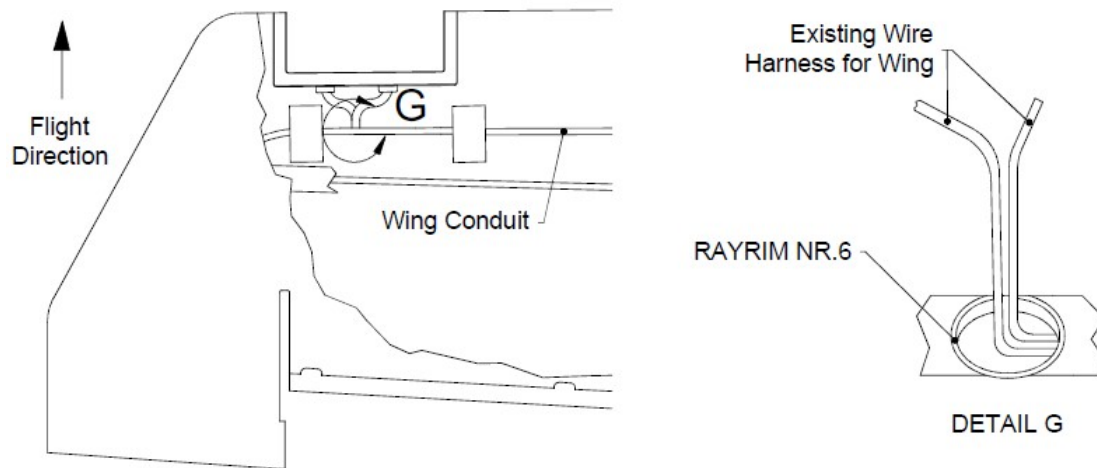

Figure 36: Modification to Wing Conduit
- 13.1.7** Enlarge the hole in the Wing Conduit to $\varnothing 13\text{mm}$ and shrink the Adhesive Lined, Protective Edging (p/n: RAYRIM NR.6) around the hole by applying heat, as shown in Detail G of Figure 36. Take caution as to not damage the existing wire harness for the wing.